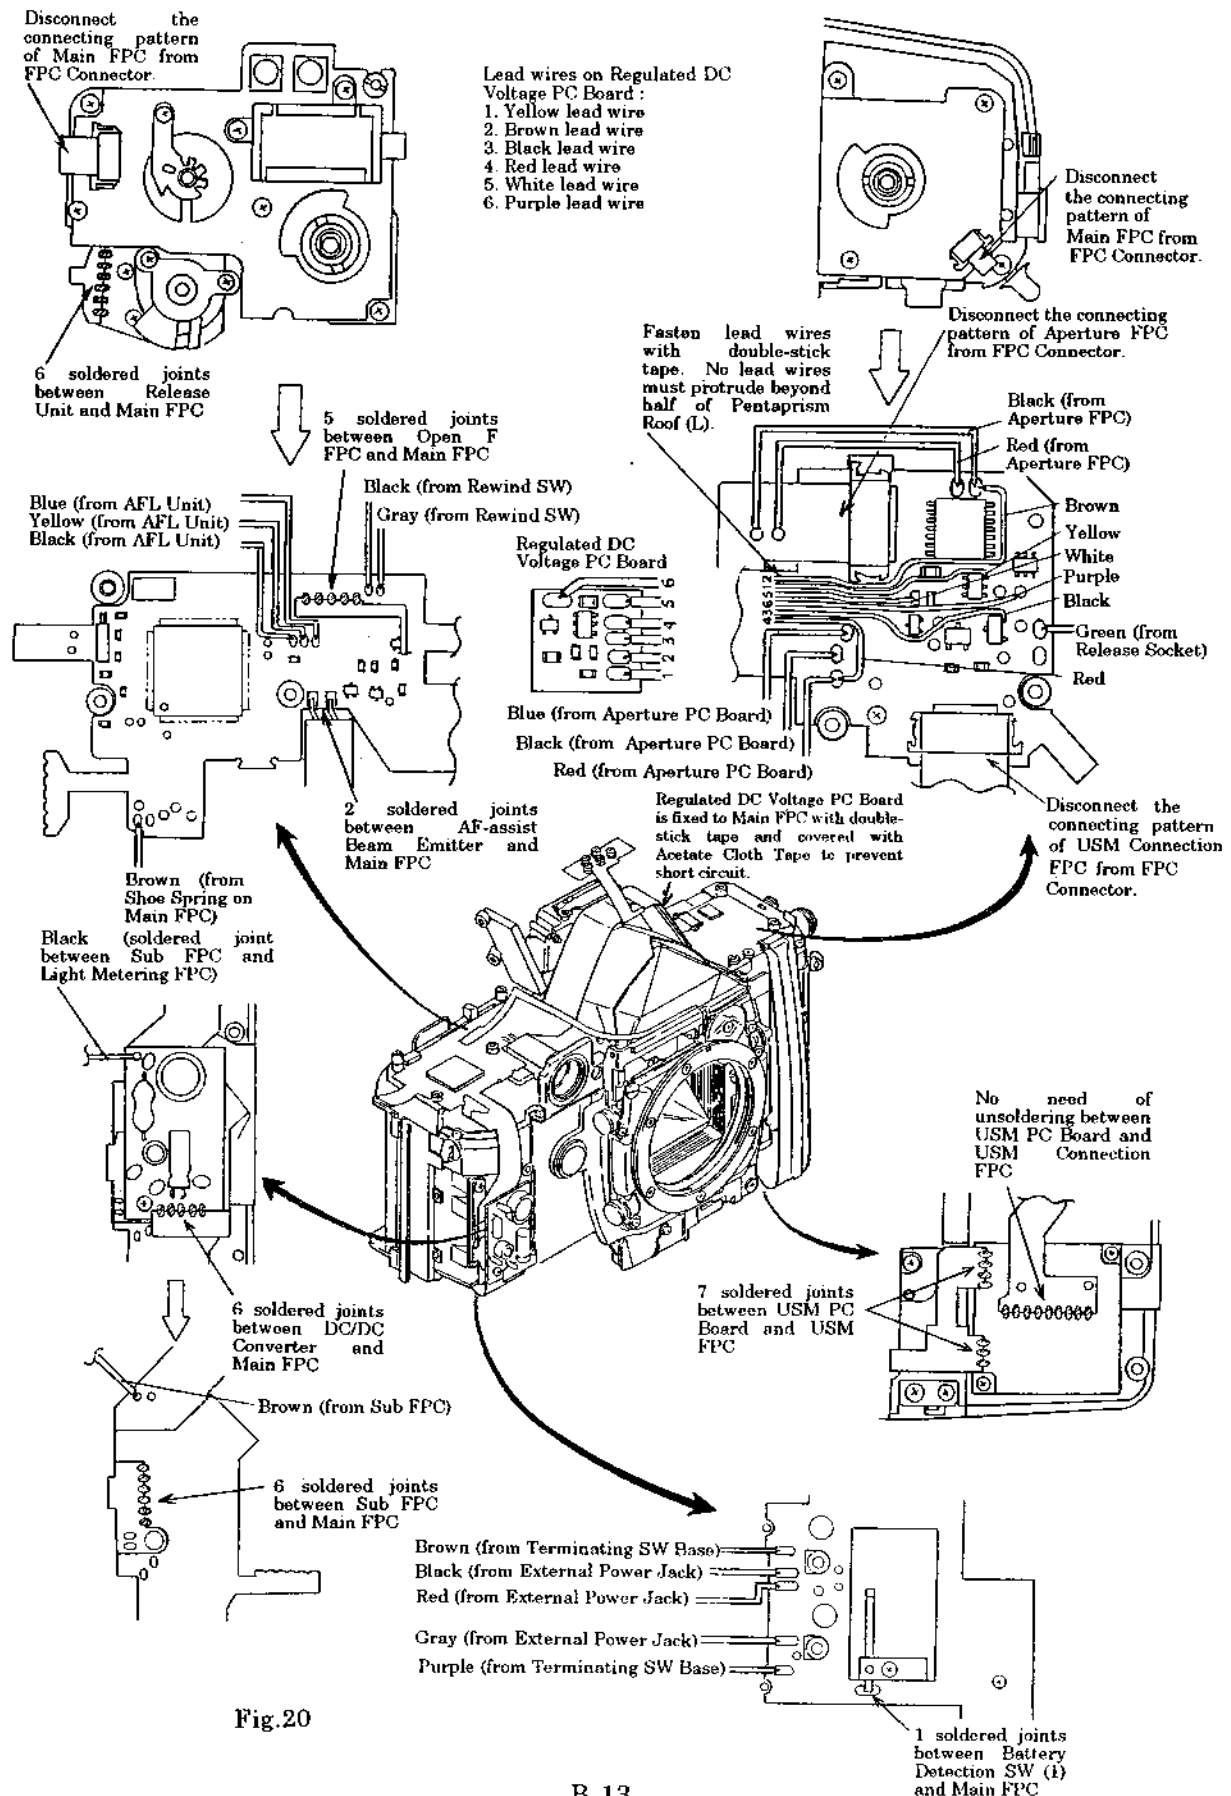

Fig.20
(Left side of Body) (See Fig. 20)
(Top right of Body) (See Fig. 20)
(See Fig. 20)
- 1) Unsolder the 7 Soldered joints between the USM PC Board and the USM FPC. (See Fig.20)
- There is no need of unsoldering the soldered joints between the USM PC Board and the USM Connection FPC (1AF54900). (See Fig.20)